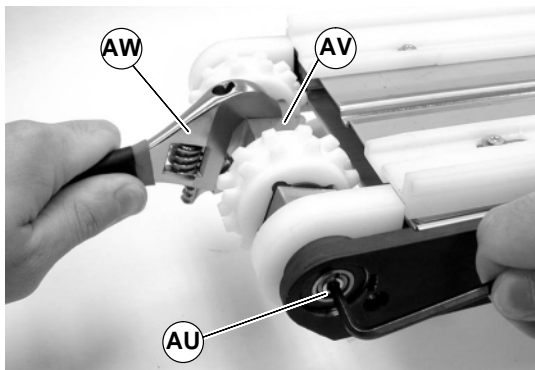

Figure 56
6. On both sides of pulley, use a 4mm hex-key wrench to tighten pulley taper screw (AU of Figure 56) to 35 in-lb (4 N-m). Steady pulley (AV) with wrench (AW).